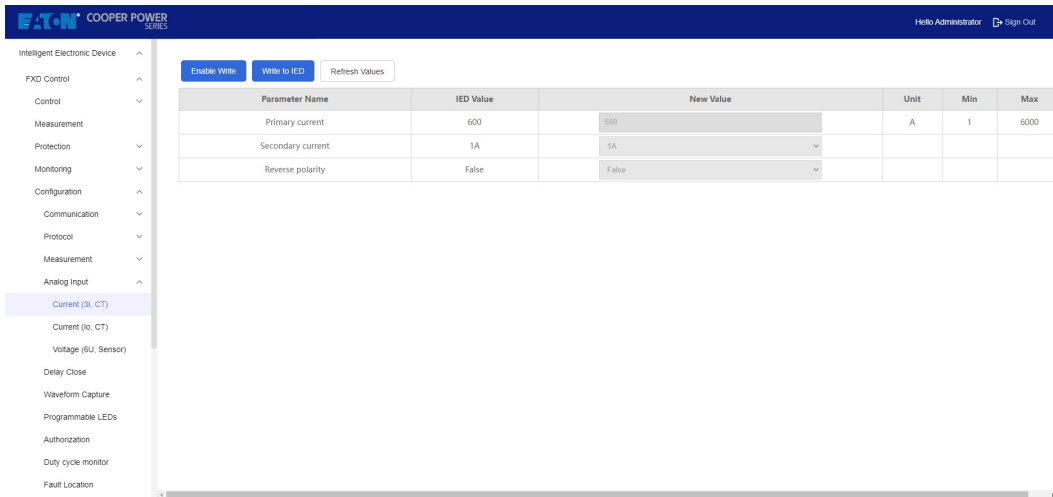

Figure 28 Analog input on web-server
5. Click the "Analog Input" and parameter settings window will popup where it is possible to edit. (Figure 28)